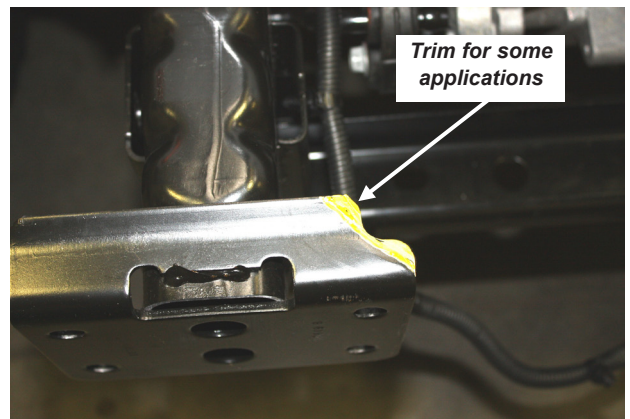

Figure 10
9. If you are installing a PowerPlant trim the top flange of the passenger side bumper mount. Figure 10.